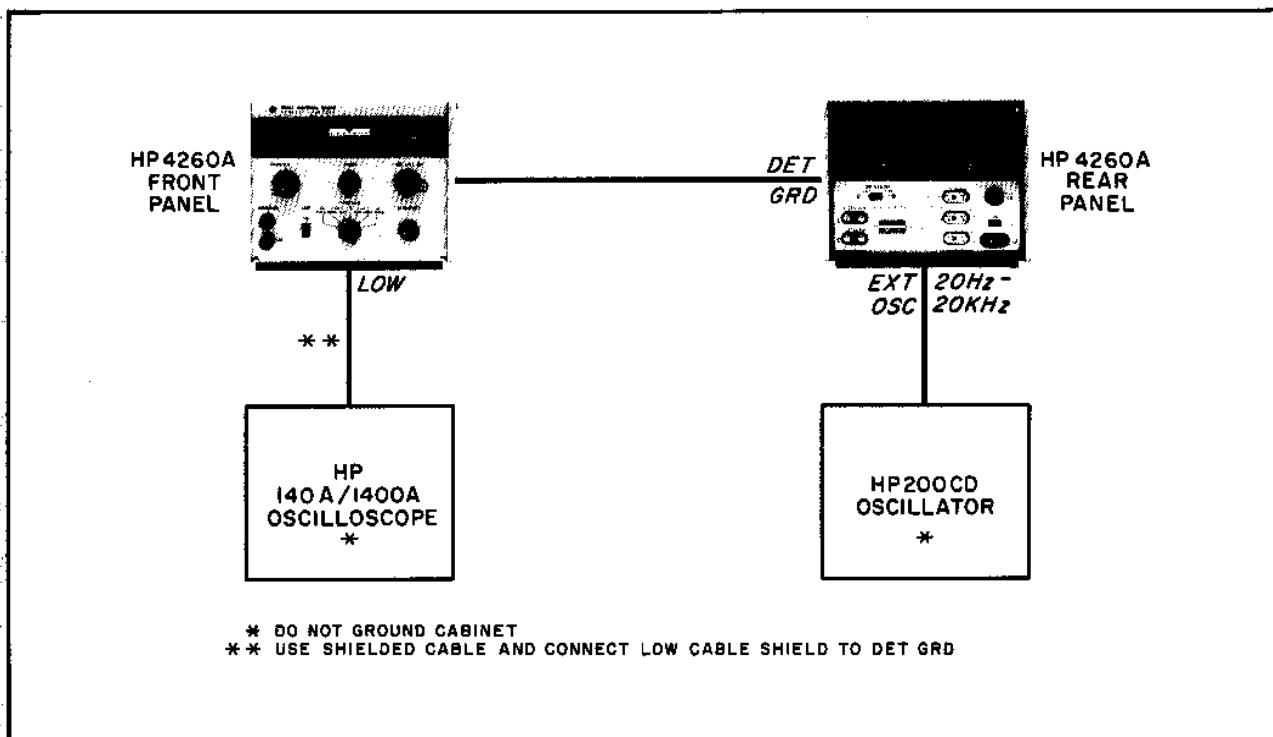

Figure 5-5. Test Setup for Adjustments
5-30. INTRODUCTION. The procedures in Paragraphs 5-31 through 5-38 outline checks and adjustments for the components in the bridge circuit. These include fixed 0.2 μF capacitor C1, compensating capacitor C305, CRL resistor R3, trimmers C103, C104, C3, and accuracy of resistors in the RANGE switch. The test equipment setup is shown in Figure 5-5. These checks and adjustments should be performed in the order listed when a comprehensive overall instrument checkout is desired. Test equipment for these checks is listed in Table 5-6.
5-31. C1 CHECK. To check fixed bridge capacitor C1, connect the instruments as shown in Figure 5-5.
a. Connect the test setup as shown in Figure 5-5.
a. Connect test equipment setup as shown in Figure 5-5.
- a. Connect test equipment as shown in Figure 5-5.
- a. Connect test equipment setup as shown in Figure 5-5.
- a. Connect test setup as shown in Figure 5-5.